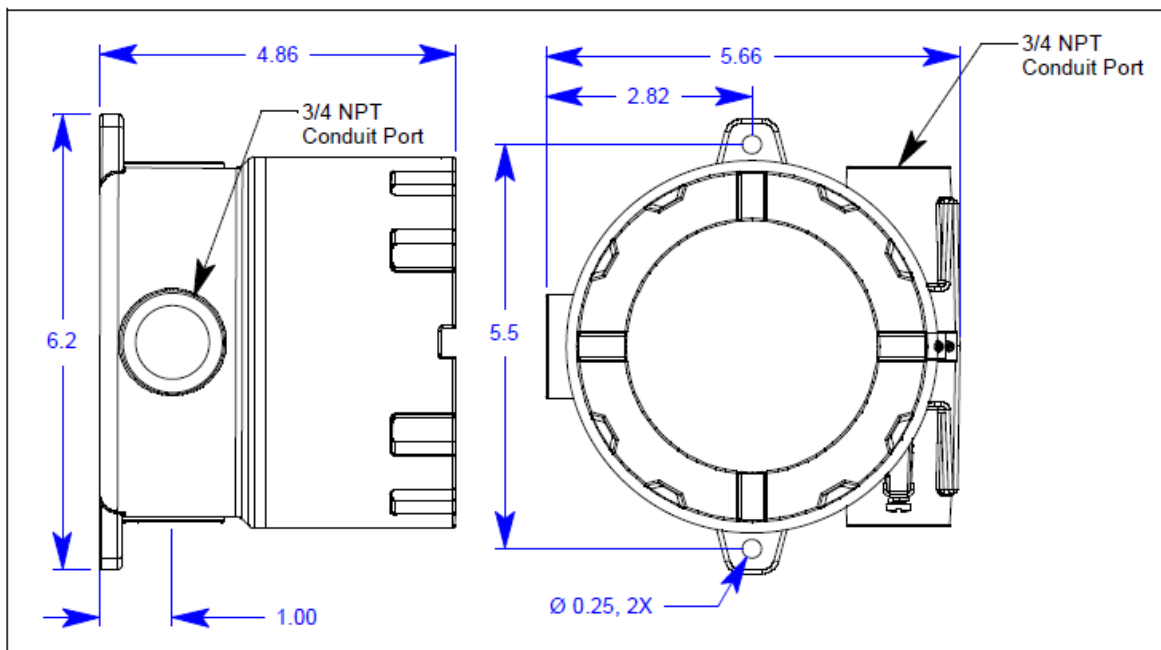
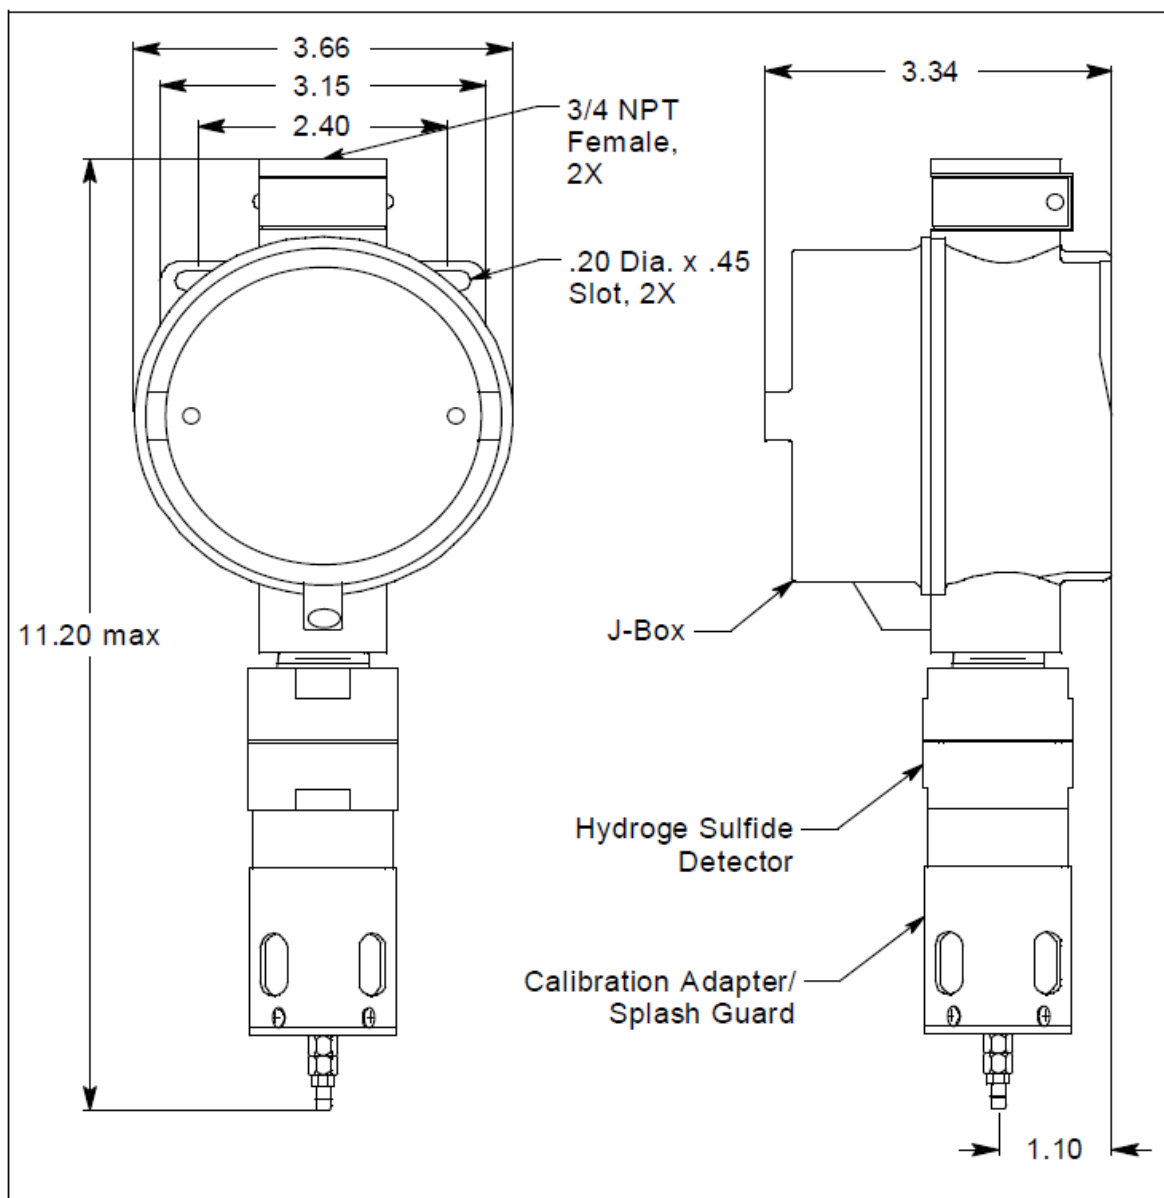

Figure 6: Outline & Mounting Dimensions, M2A Junction Box
Figure 7: Outline & Mounting Dimensions, Detector Junction Box
2. Use #10 screws through the M2A junction box's two mounting slots to secure the junction box to a vertical surface. Figure 6 shows the outline and mounting dimensions of the M2A junction box. Figure 7 shows the outline and mounting dimensions for the detector junction box. Mount the detector junction box with the detector facing down as shown in Figure 7.